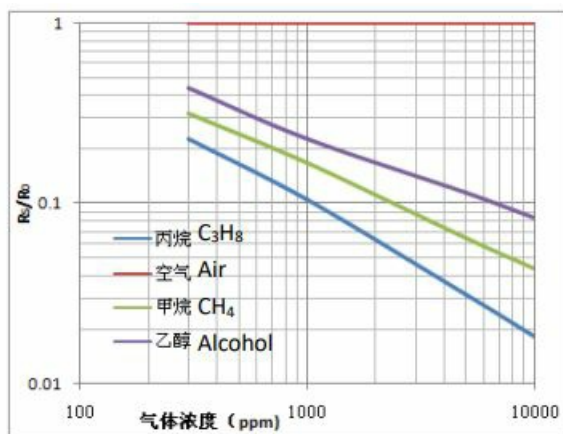

Fig3. Typical Sensitivity Curve
- **Fig3. Typical Sensitivity Curve:** This graph shows the resistance ratio of the sensor (R_s/R_0) against the concentration of gases. R_s represents the resistance in the target gas with different concentrations, while R_0 represents the resistance of the sensor in clean air.